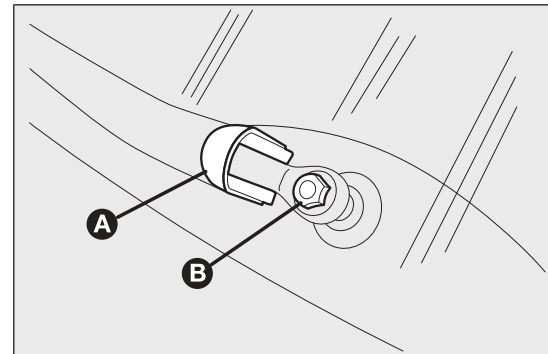

fig. 180
- raise cover A fig. 180 and remove the arm from the car undoing the nut B that fastens it to the pivot pin;